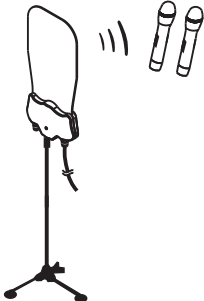

Fig. 2: Mounted on an optional microphone tripod
1. Set the base on any 35 Ø tripod or on top of MIPRO's MS-90 wall-mounting kit and tighten. Fig. 2, 3